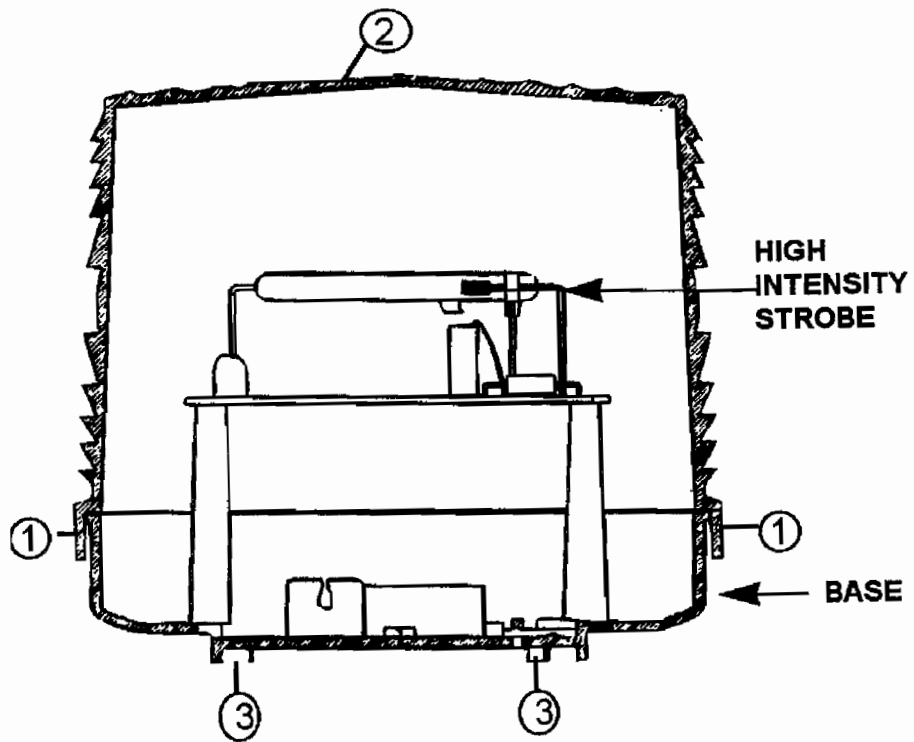

Figure 3-4. Murphy Panel Beacon Light
a. Repair (Refer to Figure 3-4)